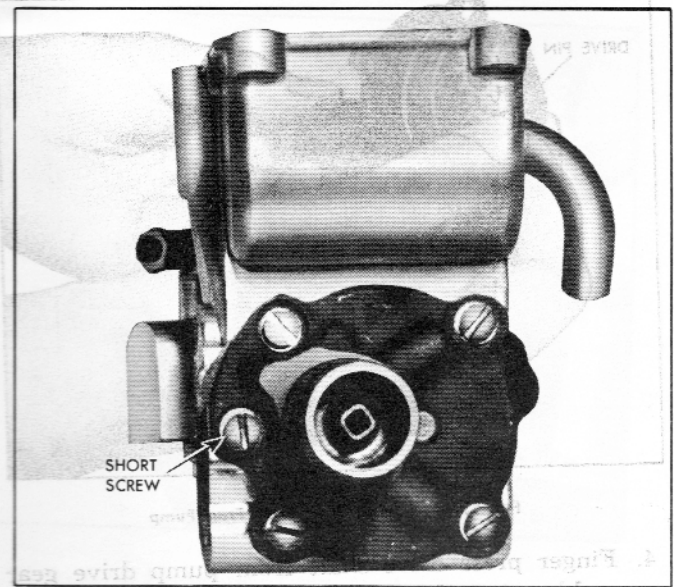

Fig. 51—Fuel Pump Short Screw Location
- Remove 5 pump attaching screws, noting screw located at 9 o'clock is the shortest (fig. 51). Remove pump and gasket from fuel meter.